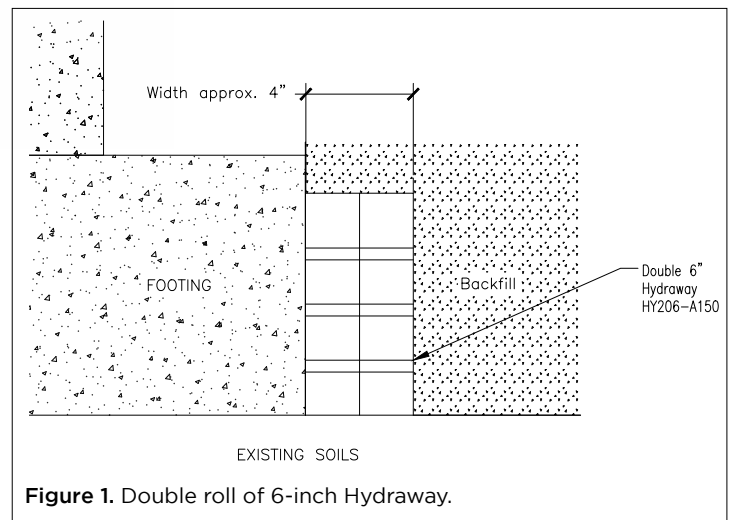

Figure 1. Double roll of 6-inch Hydroway.
4. Use two 6-inch rolls of Hydroway and roll them out together. Secure the rolls to each other with HydraTape. The double rolls should be placed vertically along the footing. Hydroway should be placed flush to the footing with the top edge of Hydroway to the top of the footing (See Figure 1). Hydroway needs to be run from one end of the pit all along the perimeter of the basement or crawlspace until it ends up back at the sump pit. Hydroway will bend around the corners, however, a basement or crawlspace could have a geometry that may require a corner fitting. Each roll of Hydroway comes in 150-foot lengths and if one roll of